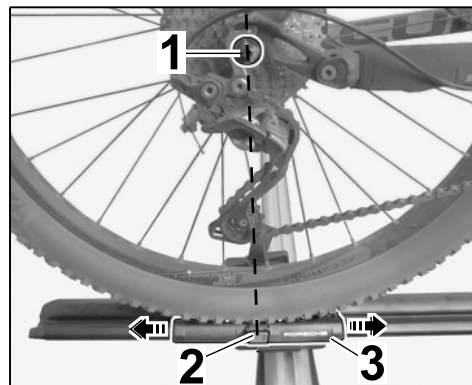

Figure 34
7.3.4 Position the wheel mount (rear wheel) as shown: By pushing the wheel mount, adjust it as required ⇒ *Figure 34-arrows*- until the turnbuckle is aligned with the centre of the wheel (⇒ *Figure 34-dashed, vertical line*-).